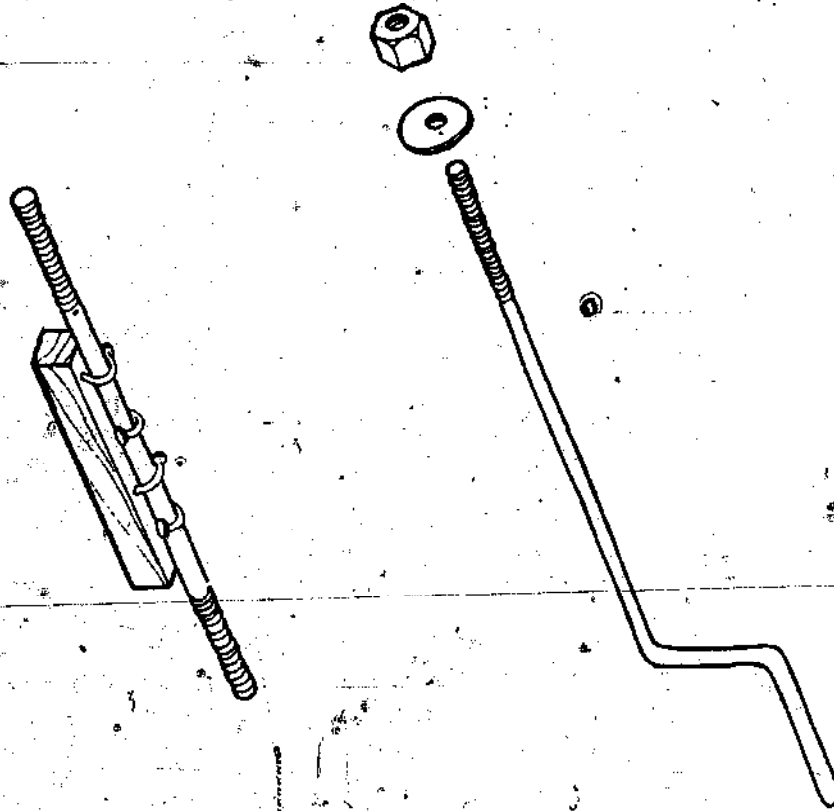

Figure 78.
5. Make your bolts with crank-type handles as shown in Figure 78.
8. Drive a couple of nails partially in your spacer block and bend them over to fit on the bolts as shown in Figure 78. When you set the forms up, stick the bolts through the nails to hold the spacer blocks in place while you are tightening up the bolts.